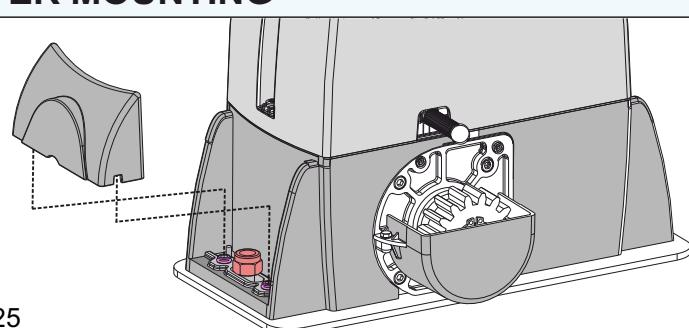

Fig. 25
- 11.1. At the end of the mechanical installation and after carrying on all the required adjustments, mount the two screw-covers on the operator, as shown in Fig. 25